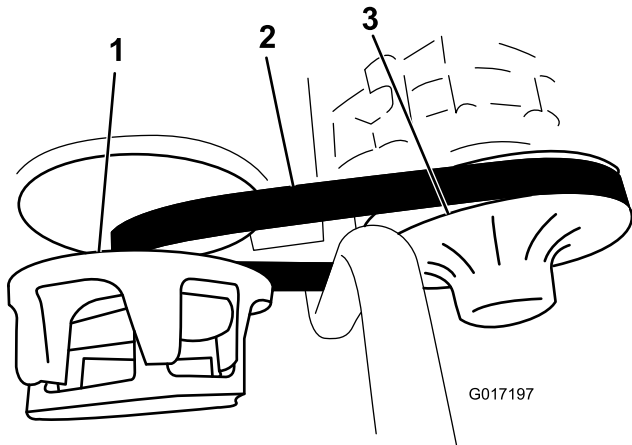

Figure 58
3. Rotate and inspect the belt for excessive wear or damage (Figure 58).
3. Rotate and route the belt over the secondary clutch (Figure 58).
4. Remove the belt from the primary clutch (Figure 58).
5. Align the new belt over the primary clutch (Figure 58).
6. Rotate and route the belt over the secondary clutch (Figure 58).